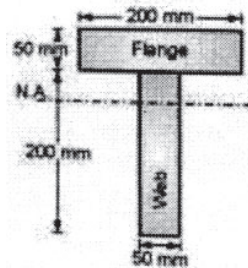

Figure 1
- Q1) a)** A T section with 200 mm × 50 mm and web 200 mm × 50 mm as shown in figure 1 is subjected to vertical shear force of 200 kN. Calculate the shear stress at the junction of flange and web and shear stress at the neutral axis. Sketch the shear stress distribution diagram. [9]